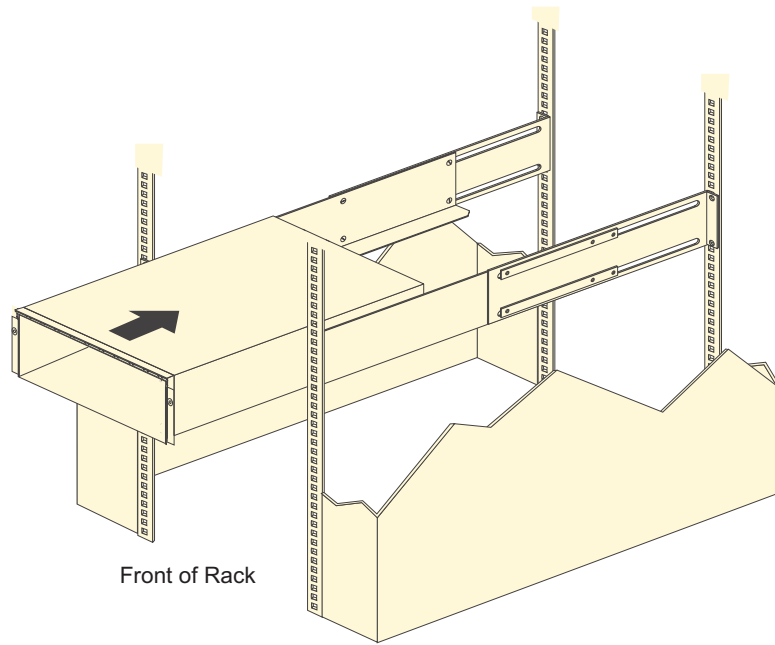

Figure 18. Installing the DS3950
- b. With help from another person, place the back of the storage subsystem on the support rails, and then slide the unit into the rack as shown in Figure 18 on page 41.